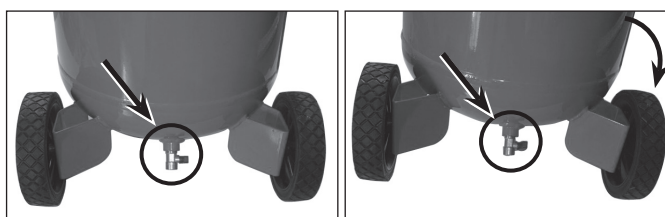

Fig. 10
- Keep the compressor tilted (figure 10) until all moisture has been removed.